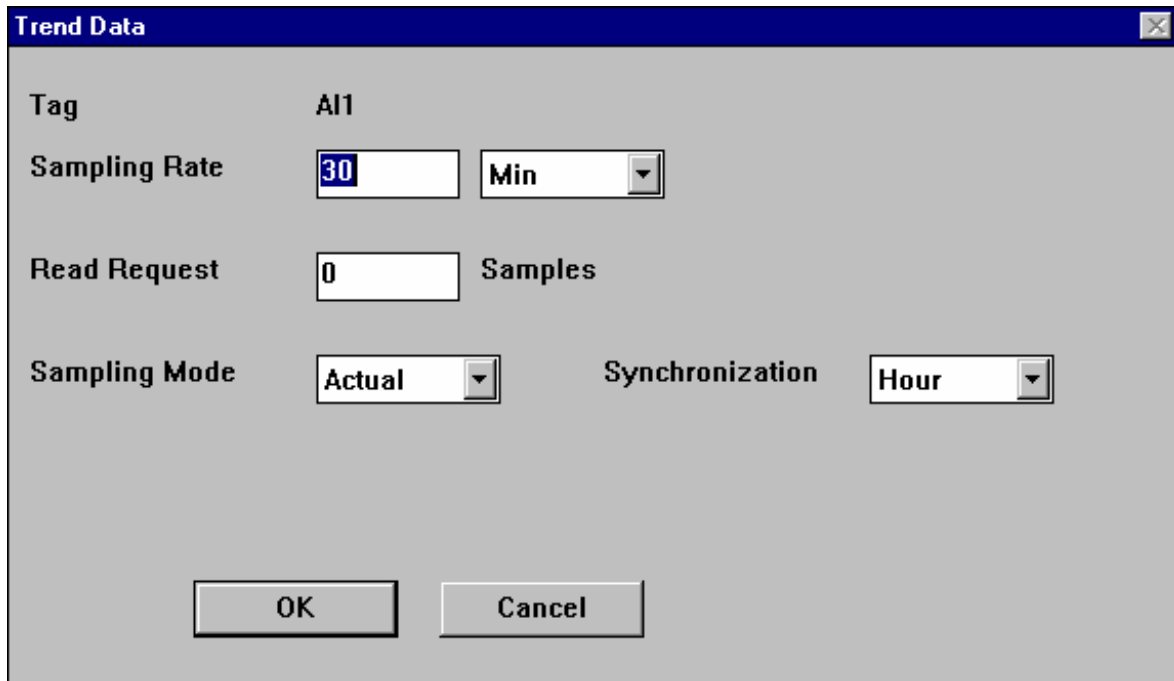
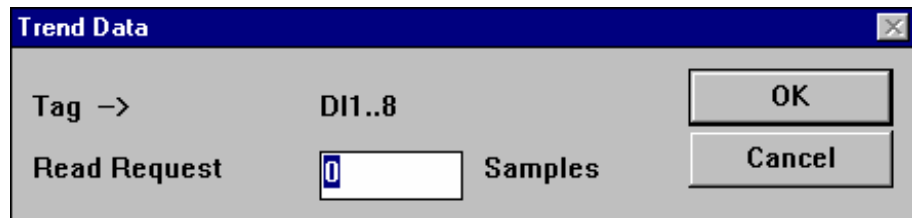

Figure 7-7: Analog Item Trend Data Dialog Box
Figure 7-8: Logic Variable Set Trend Data Dialog Box
7. Highlight the item you want to add to the table and click OK. An analog item or a logic variable set Trend Data dialog box appears (Figure 7-7 or Figure 7-8).